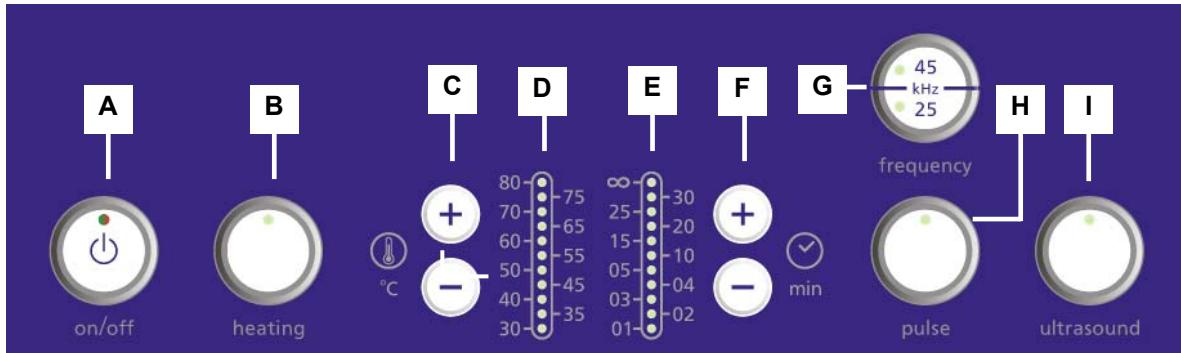

Fig. 4.10 Operating panel
1. Press the key *on/off* (Fig. 4.10.A), the green LED in the key is lighted.
2. Press the key *heating* (Fig. 4.10.B), the green LED in the key is lighted.
3. Set the required cleaning temperature by pressing the +/- keys (Fig. 4.10.C), the LED indicating the set temperature is lighted. The heating process is started and the actual temperature is indicated by the flashing LED (Fig. 4.10.D).
1. Activate the ultrasound at the key *ultrasound* (Fig. 4.10.I). The green LED in the key is lighted.
2. Set the required frequency to 45 kHz at the selector key *frequency* (Fig. 4.10.G). The green LED in the key is lighted.
3. Press the key *pulse* (Fig. 4.10.H). The green LED in the key is lighted.
The ultrasonic frequency is set by means of the selector key „frequency“. (Fig. 4.10.G.). The following two frequencies are available:
Press both keys *ultrasound* and *pulse* (Fig. 4.10.H). The green LED in the key indicates the operation in *pulse* mode. *pulse* can be switched on or off as required during operation.